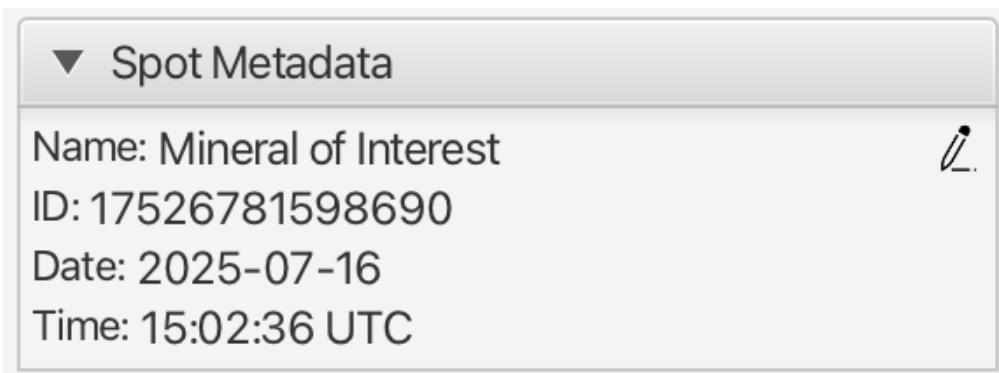

Figure 21: Spot Metadata panel showing selected spot with editable data fields.
7. **Save the spot:** After saving, the spot appears in the micrograph and is listed in the **Spot Metadata** panel on the right side (see Figure 21).
- Open the **Spot Metadata** toggle panel on the right side, showing detailed metadata for the selected spot (see Figure 21).
- **To add data to a spot:** Click the spot to select it. When active, the spot will be outlined in red and its metadata panel will appear on the right (see Figure 21).